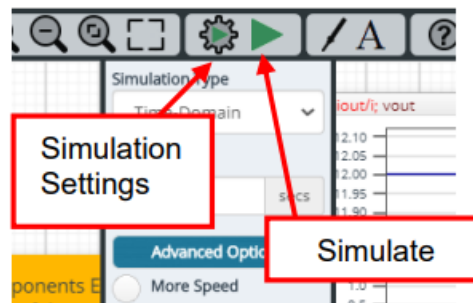

Figure 2. Simulation Settings and execution
- Configure simulation settings in the ‘Simulation Settings’ as shown in Figure 2. The default setup is provided in Table 1.
- The simulation settings, such as parameter sweep or convergence options, are configurable from the 'Simulation Settings' shown in Figure 2, and Table 1 shows the default setup of the simulation.